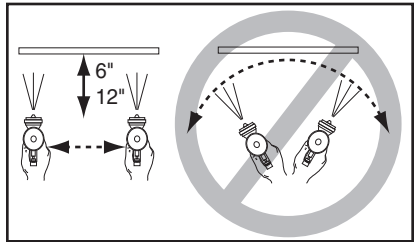

Figure 4. Spraying technique.
12. Keep the gun tip perpendicular, parallel and 6-12" from the work at all times when spraying, as shown in **Figure 4**. Do not allow your wrist to bend. This will cause the gun to arc across the surface and distribute the material unevenly, possibly creating sags and dry spots.